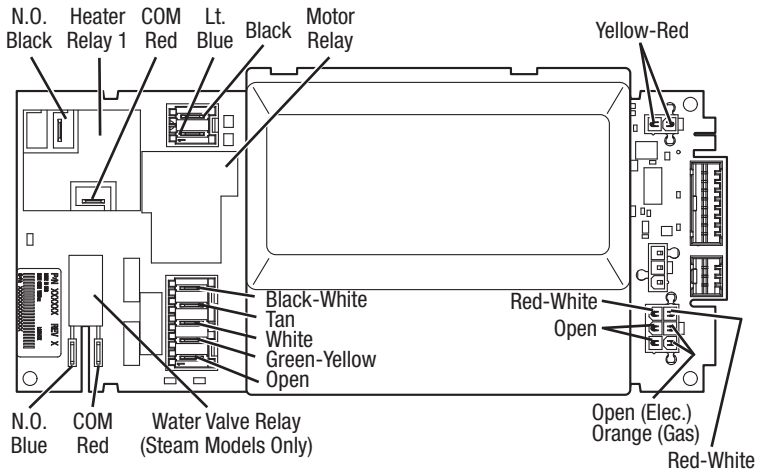

Figure 15. Machine control electronics (appearance may vary, depending on model).
2. Perform steps in Accessing & Removing the Electronic Assemblies, and check that the wires are connected to the water valve relay on the machine control electronics. See figure 15, page 23.
1. Remove all the wire connections to the machine control electronics. See figure 15, page 23.